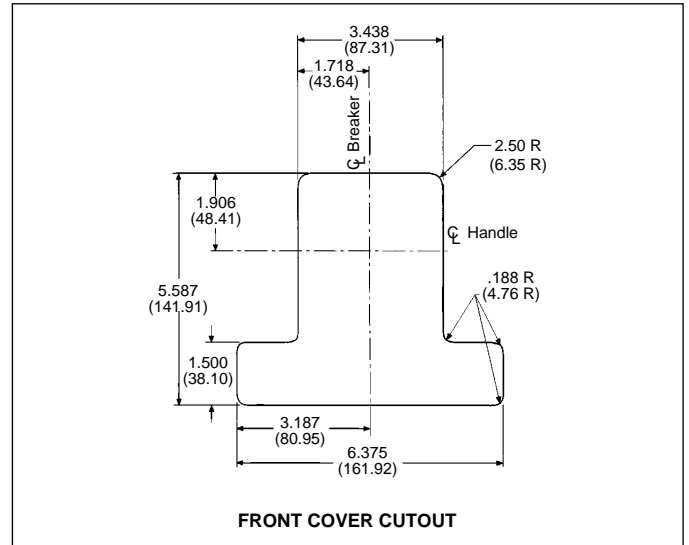
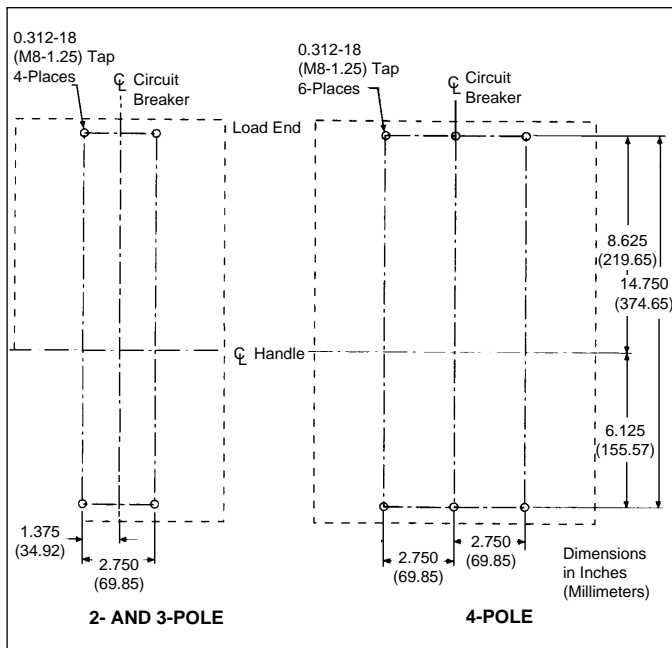
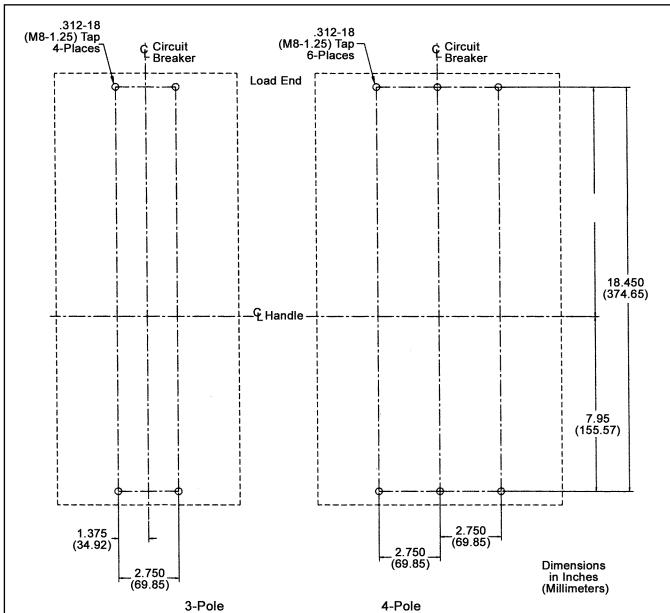

Figure 2-6 Circuit Breaker Escutcheon Dimensions
Figure 2-5 Breaker Mounting Bolt Drilling Plan - 800A, 1200A, 1250A Circuit Breaker and 1600A front connected Circuit Breakers.
Figure 2-7 Breaker Mounting Bolt Drilling Plan - 1600A Rear Connect Circuit Breaker
- a. For individual surface mounting, drill mounting panel using the drilling plan shown in Figure 2-5. For dead front cover applications, cut out cover to correct escutcheon dimensions, see Figure 2-6.
- a. For individual surface mounting, drill the mounting panel using the drilling plan shown in Figure 2-7. For dead front cover applications, cut out cover to correct escutcheon dimensions, see Figure 2-6.